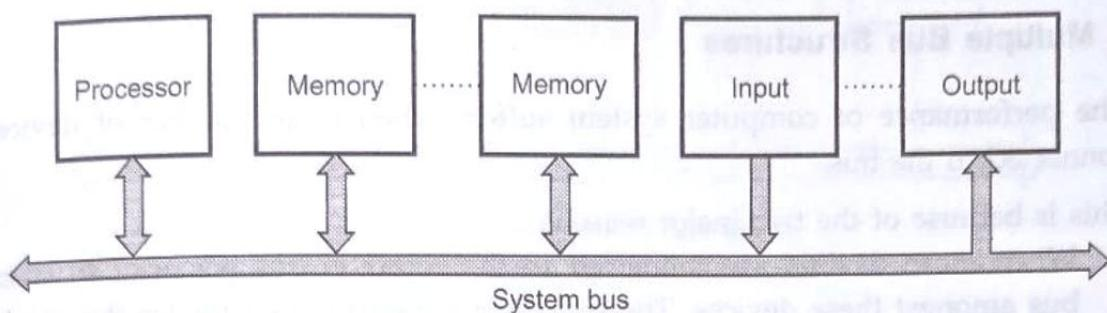

Fig. 1.4.2 Single bus structure
- Another way to represent the same bus connection scheme is shown in Fig. 1.4.2.